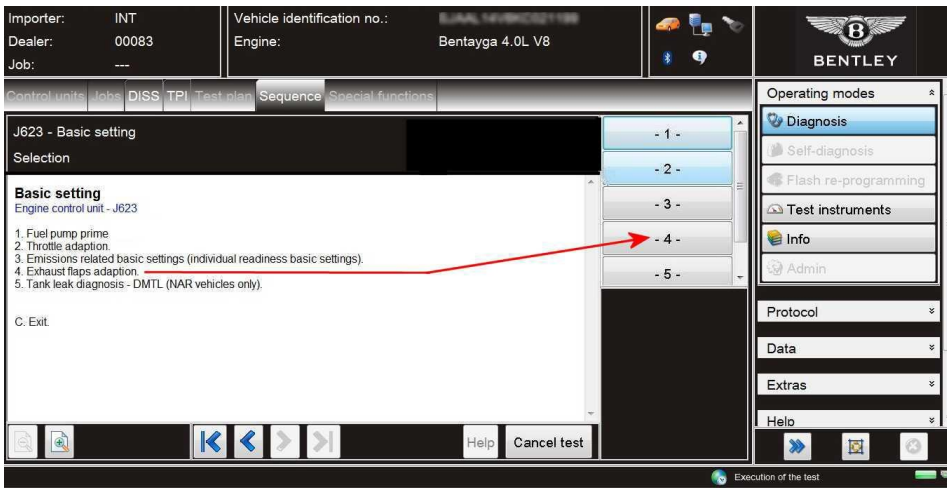

Figure 5
4) Referring to Figure 5 - Select -4- Exhaust flaps adaption